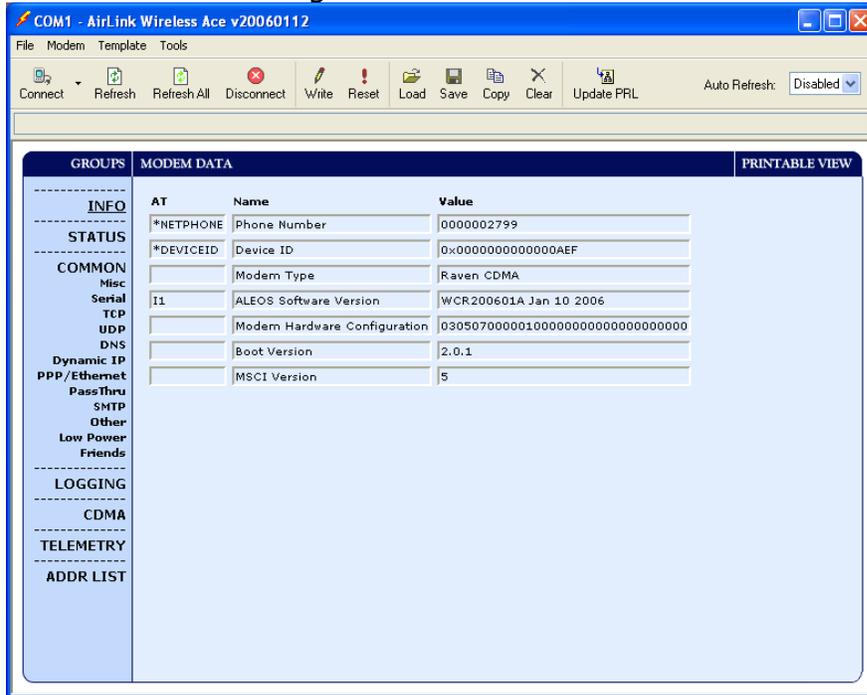

Figure 44 Info Screen
13. Once you have connected to the modem, you should see the info screen as shown in Figure 44 Info Screen.